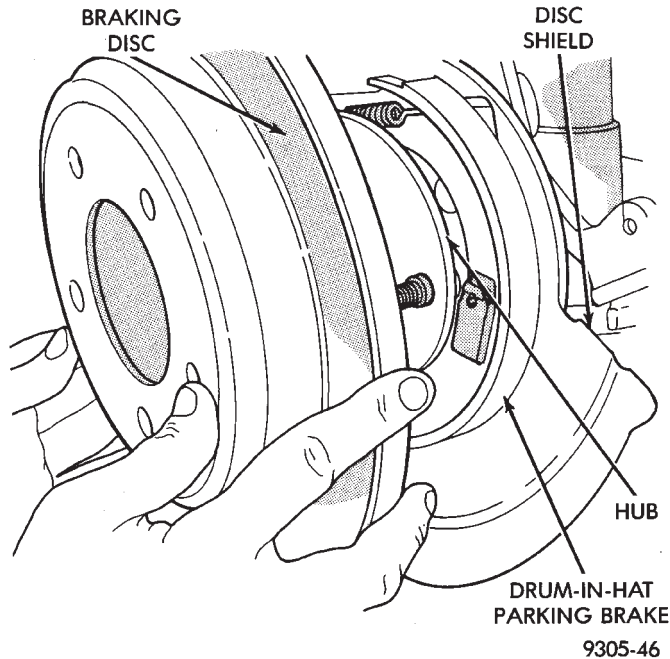

Fig. 96 Installing Rear Rotor
(2) Lubricate both adapter abutments with a liberal amount of Mopar® Multipurpose Lubricant, or equivalent.
(3) If removed, install the rotor on the hub making sure it is squarely seated on the face of the hub (Fig. 96).